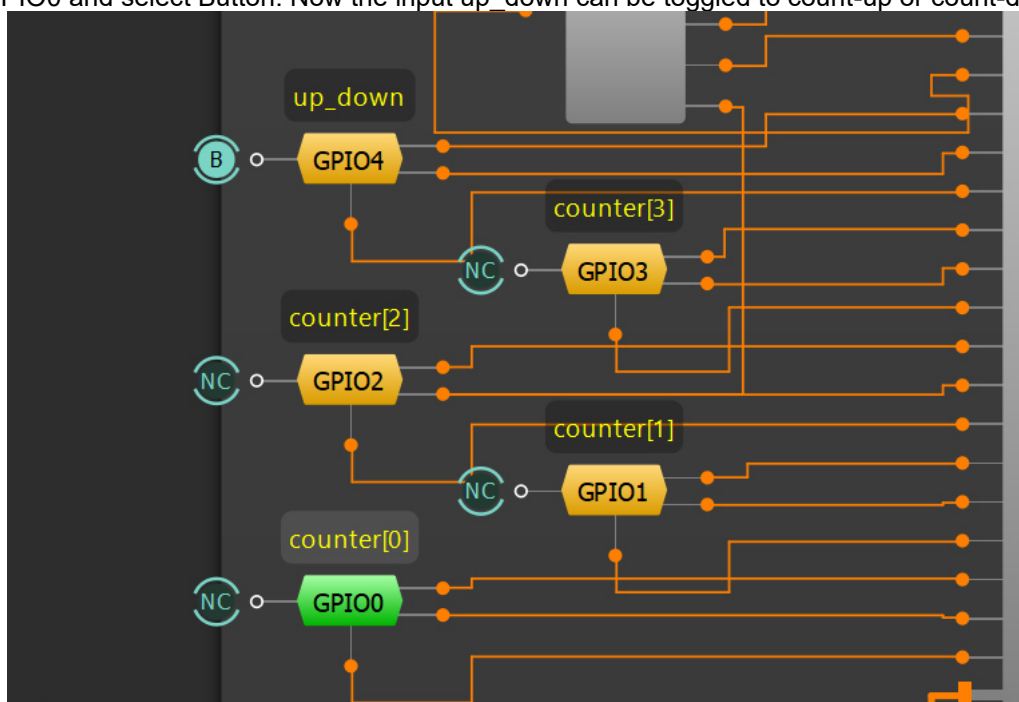

Figure 16: Forge FPGA Window
10. Close the FPGA Editor and go to the ForgeFPGA widow (Figure 16). Selecting the Debug tab will enable the debug controls. Double click on the VDD pin and set VDD= 1.2v. Then double click on VDDIO pin and set VDDIO= 1.8v.